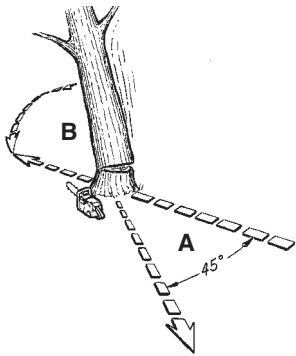

Fig. 14
**WARNING:** A retreat path (A) should be planned and cleared as necessary before cuts are started. The retreat path should extend back and diagonally to the rear of the expected line of fall, as illustrated in Fig. 14.
**WARNING:** As the felling cut gets close to the hinge, the tree should begin to fall. When tree begins to fall, remove saw from cut, stop engine, put chain saw down, and leave area along retreat path (Fig. 14).